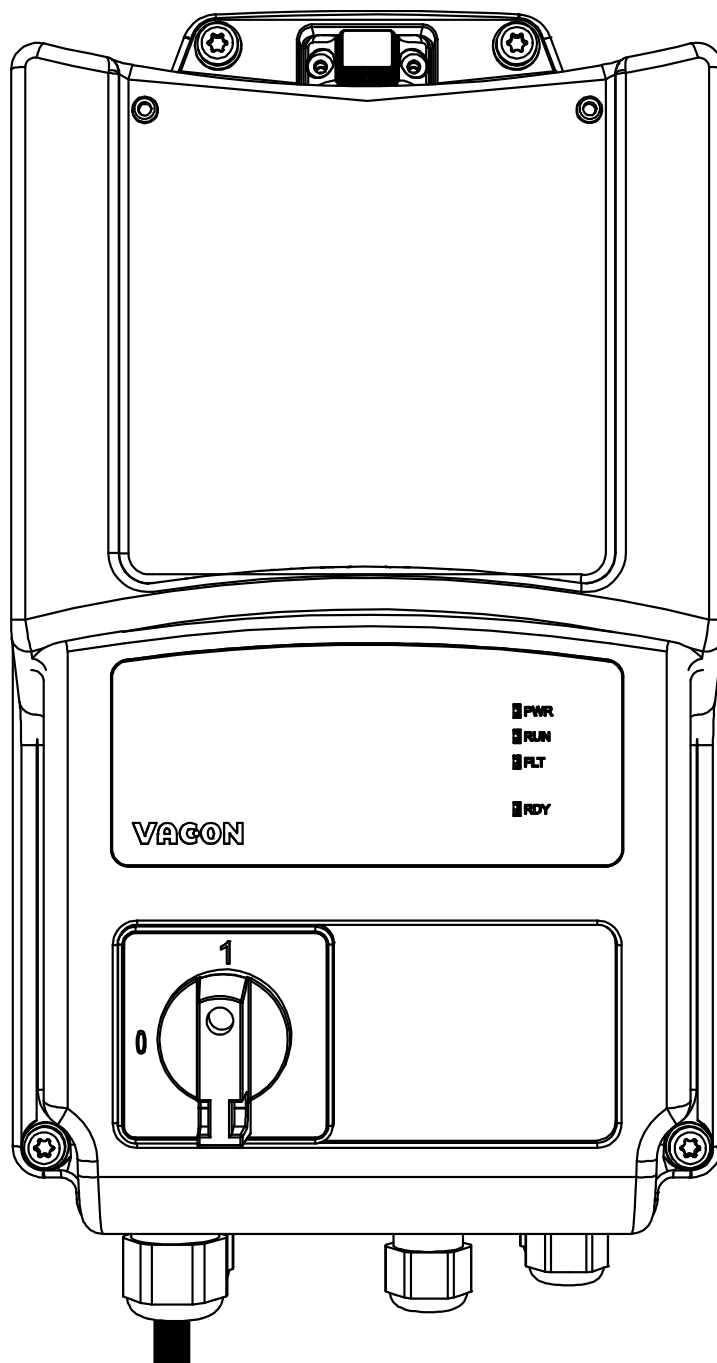

Figure 58. Mount the plastic cover.
The purpose of the *Mains switch* is to disconnect the VACON® 20 X from the mains when, for example, service actions are needed. The mains switch is available as option and it can be integrated in the drive. The switch can be mounted on the front side of the drive. See Figure 58.
- Mount the plastic cover onto the drive with its screws and HMI cap: the installation process has been completed. See Figure 58.